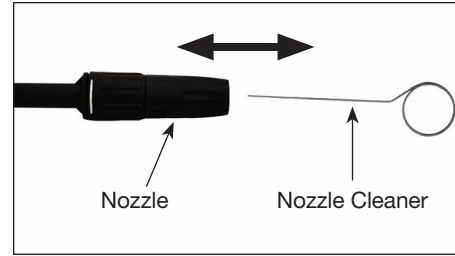

Figure 21
- Using the included nozzle cleaner, or an un-folded paper clip, insert wire into the nozzle hole and move back and forth until debris is dislodged (refer to Figure 21).